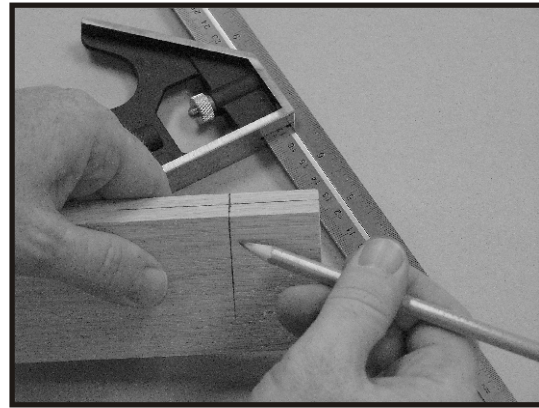
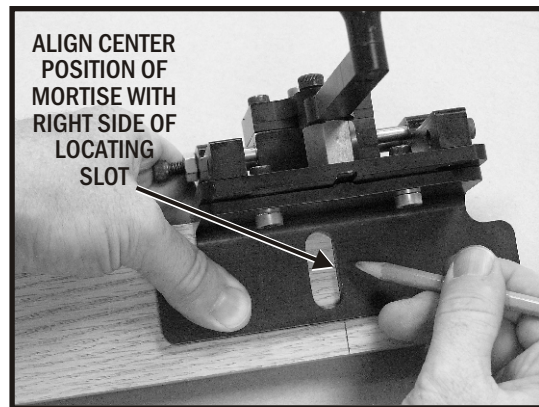
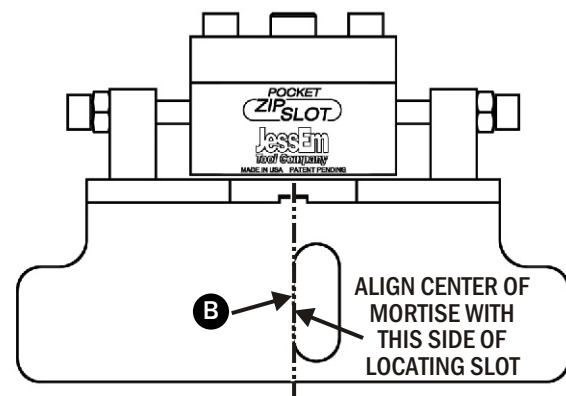

FIG. 6
FIG. 7
FIG. 8
1. Scribe a line on the side of the workpiece to locate the "center" of the mortise you want to cut (Fig. 6). Then position the Pocket Zip Slot onto the workpiece and align this mark with the right side of the slot in the stock locating base (Fig. 7).
2. When determining the position of the mortise, keep in mind that the right side (when viewed from the back) of the stock locating slot represents the center of the mortise (Fig. 7). The dotted line (Letter "B" Fig. 8) also represents the center of the mortise, which is also the center line of the drill bit.